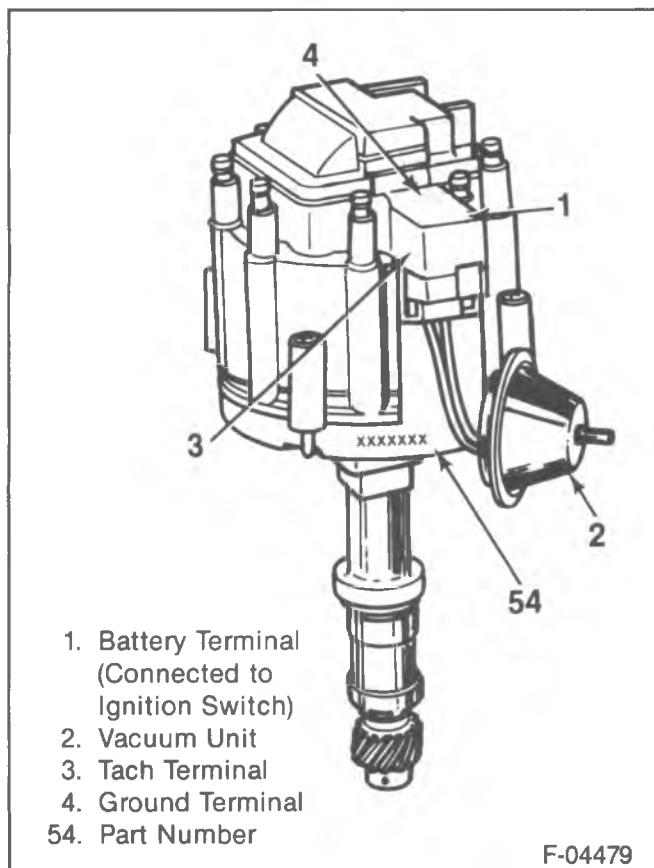
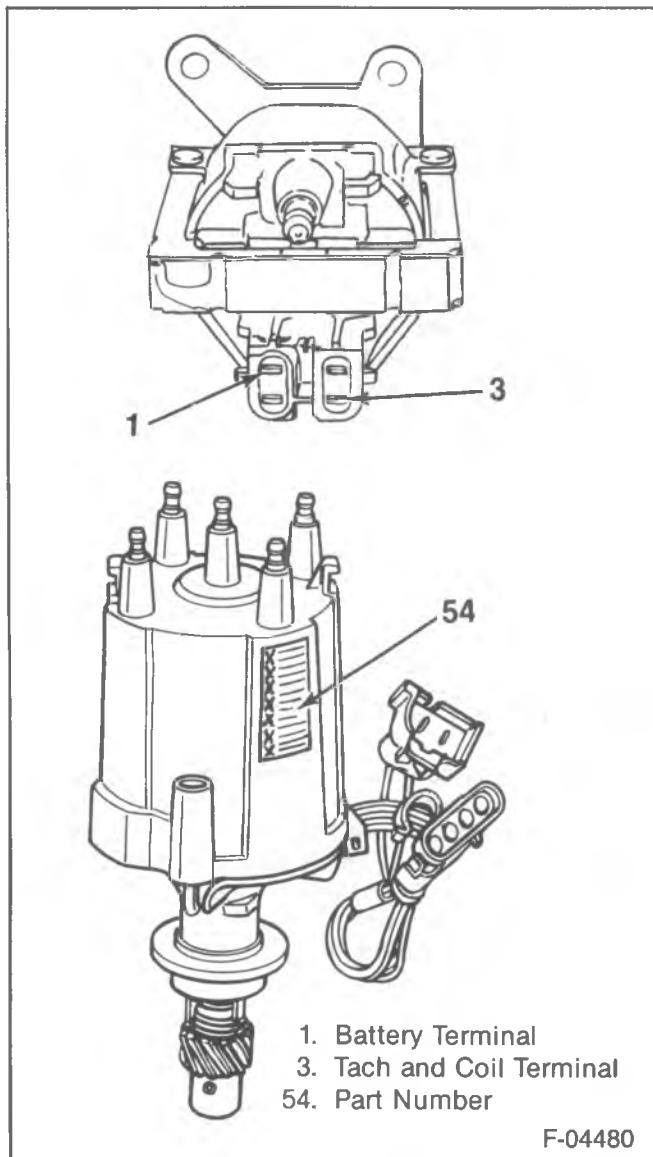

Figure 38—Distributor with Integral Coil
Figure 39—Distributor with Separate Coil
This distributor is a magnetic pulse triggered, transistor controlled, inductive discharge distributor (figures 38 through 41). The magnetic pickup assembly located inside the distributor contains a permanent magnet, a pole piece with internal teeth, and a pickup coil. When the
On a distributor with an integral coil, the part number (seven digits) is stamped on the distributor housing (figure 38). On a distributor with a separate coil, it is located on a label on the distributor cap (figure 39).
1. Wiring harness connector from the ignition coil terminal connector (figure 38).